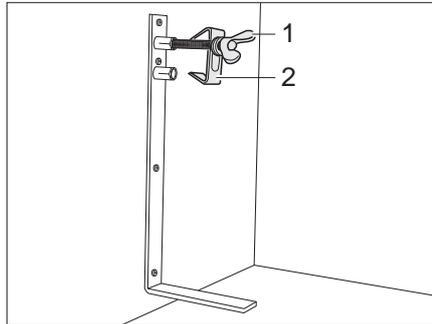

Fig. 189 Spare wheel support
- Loosen the screw (Fig. 189,1) and remove the centring device (Fig. 189,2).